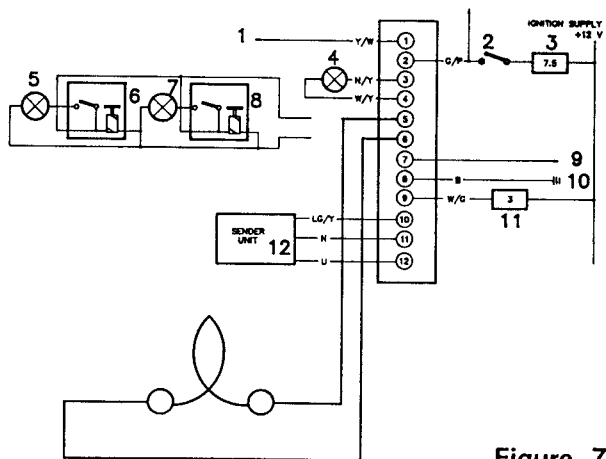

Figure 7
2. Connect a 12 volt test lamp across both terminals, see figure 7